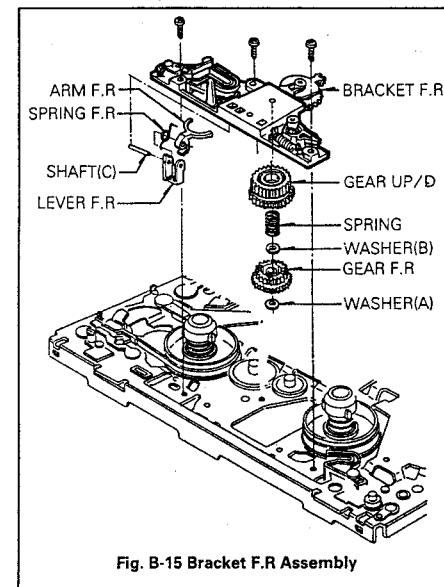

Fig. B-15 Bracket F.R Assembly
- ② Remove the TSB.
① Remove the TMB Spring.
② Remove the TMB.
15. Bracket F/R(FF/Rewind) Assembly (Fig. B-15)